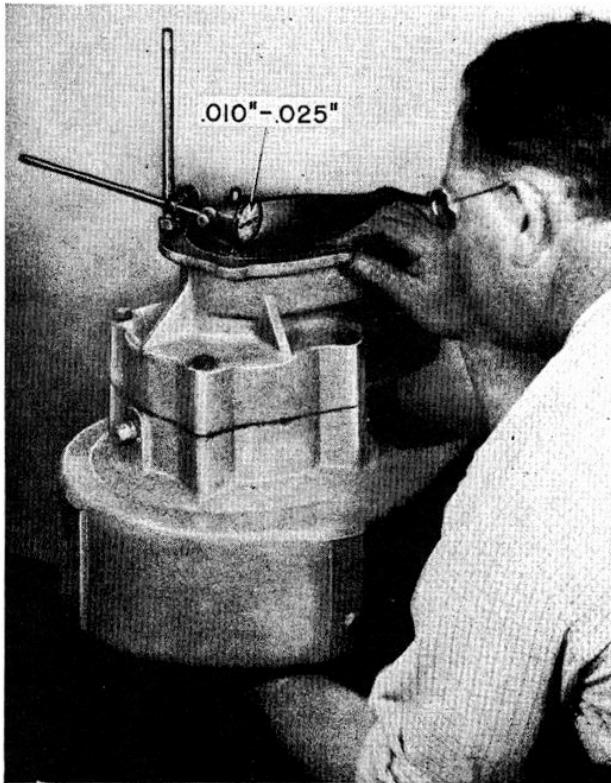

FIG. 19—MEASURING CRANKSHAFT END-PLAY
- d. With dial indicator mounted in position as shown in figure 19, touching end of crankshaft, check end play by moving shaft up and down.